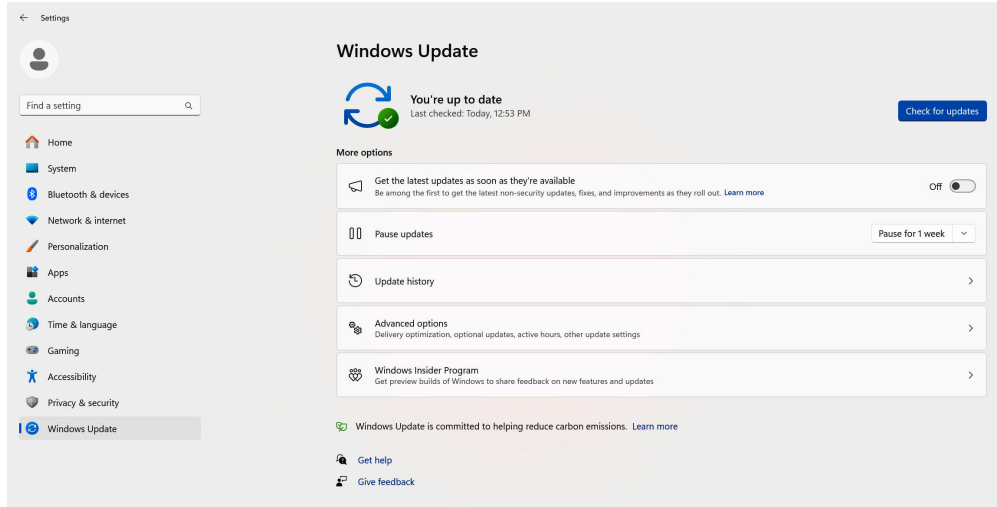

Figure 33: Windows 11 System Update Dialog
1. Navigate to *Settings* -> *Windows Update* -> *Advanced Options* (Fig 33)